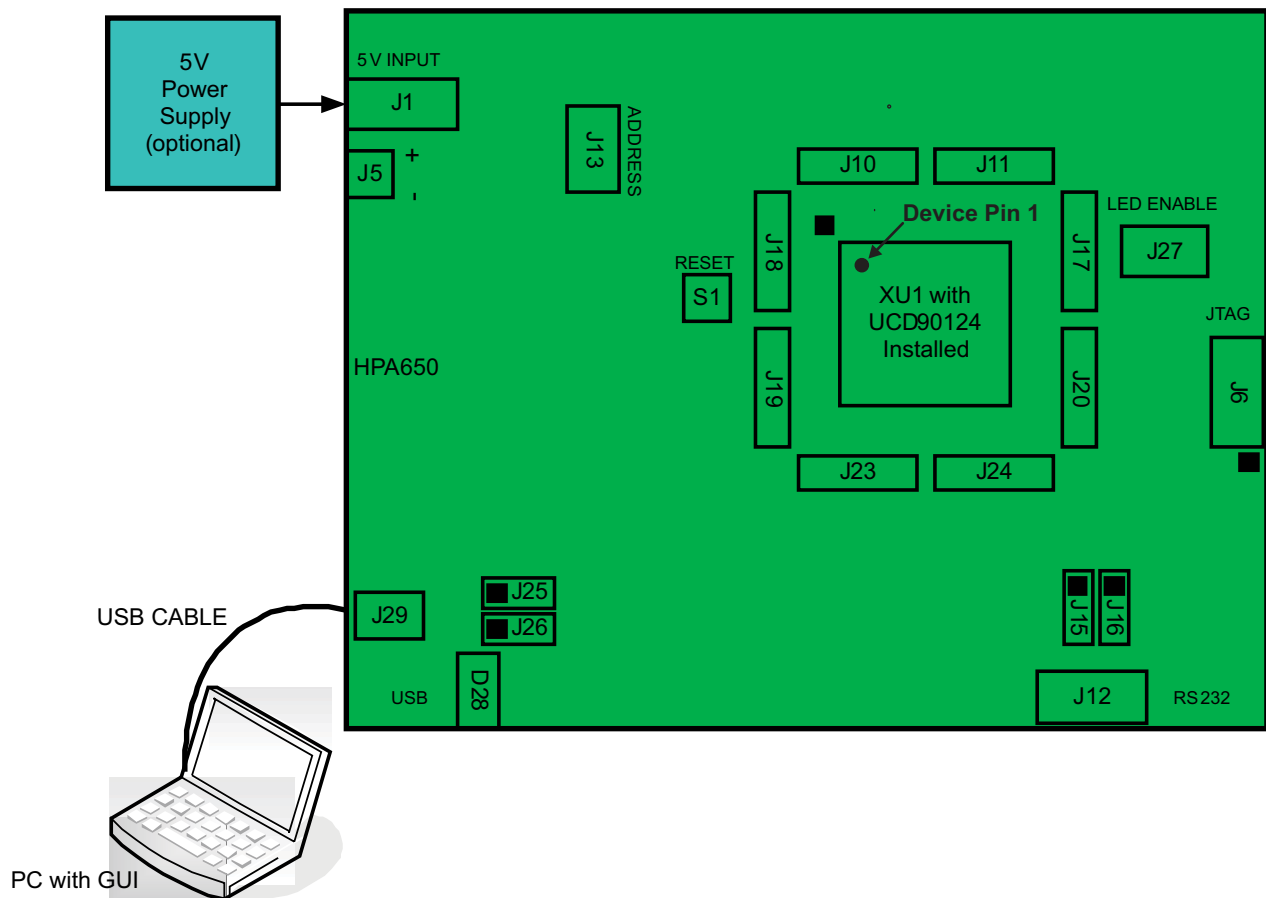

Figure 1. Typical Test Setup
Figure 1 shows a typical test setup for UCD90SEQ64EVM-650. All that is required is a personal computer (PC) with a USB port and the TI Fusion Digital Power Designer GUI. The USB-EVM cable is provided with the EVM and is used for EVM power.
When installing other UCD90xxx sequence devices into XU1, ensure that the device pin 1 is oriented as shown in Figure 1.